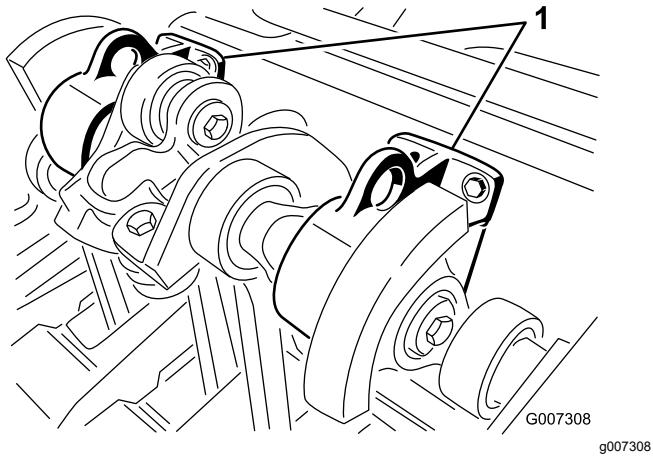

Figure 27
**Note:** If available, use a hoist to lift the rear of the machine. Use the eyelets in the coring head bearing housings as hoist attachment points (Figure 27)